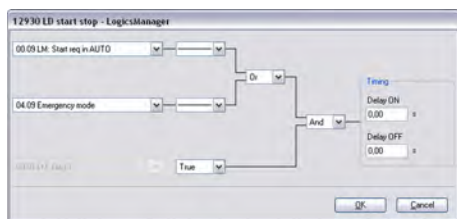

Fig. 148: LogicsManager function "LD start stop"
3. ➤ Configure the LogicsManager function "LD start stop" as shown in (Fig. 148) to enable LDSS if a start request in automatic operating mode or emergency mode are enabled.